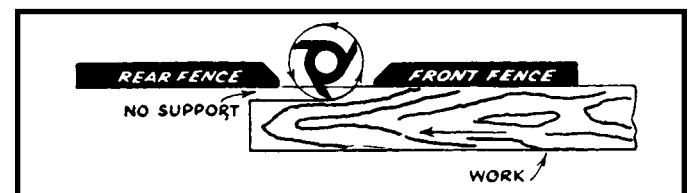

Fig. 25
2. When the shaping operation removes the entire edge of the work (jointing or making a full bead), the shaped edge will not be supported by the rear fence when both fences are in line (Fig. 25). In this case, advance the work to the position shown in Fig. 25 and stop.